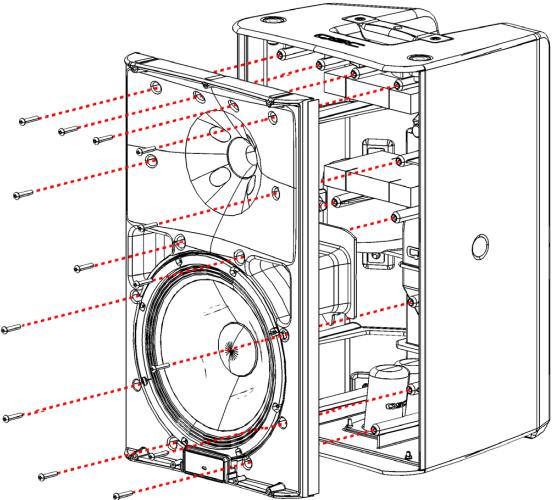

Figure 5.3.1 - Baffle assembly and enclosure
2. Remove all screws that secure the baffle to the enclosure. See Figure 5.3.1.
6. Fasten the screws that secure the baffle to the enclosure, starting with the corner screws. See Figure 5.3.1.